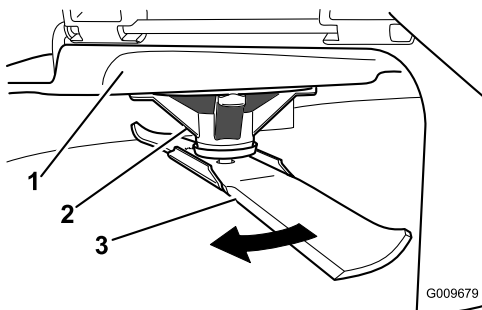

Figure 49
2. While wearing thickly padded gloves, or other adequate hand protection, slowly rotate the blade to be measure into a position that allows effective measurement of the distance between the cutting edge and the level surface the machine is on (Figure 49).